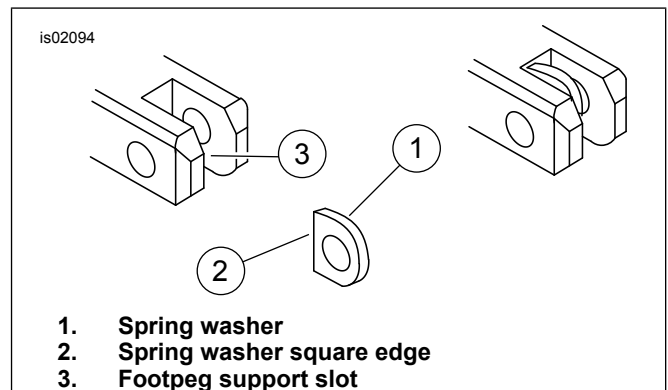

Figure 1. Footpeg Spring Washer Installation
*See Figure 1. When performing the next step, verify that the spring washer is positioned inside of the footpeg support with the square edge (2) towards the inside of the support.*
3. See Figure 1. Install the new footpegs in the same manner as the old footpegs were installed. Place a spring washer (1), along with the mount end of the footpeg, inside the slots (3) of the footpeg supports.